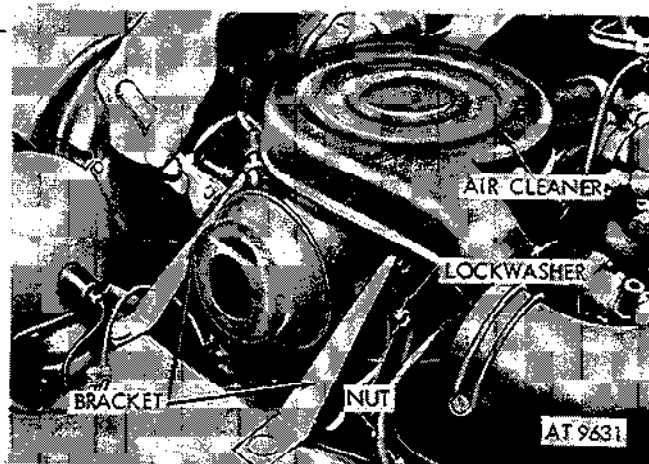

Figure 2-90. Remove air cleaner (Holley).
(4) Remove four screws, washer assemblies and nuts securing air cleaner to brackets and remove air cleaner (fig. 2-90).
c. *Installation.* Perform removal operations (4) back through (1), and refer to figures 2-90 back through 2-88.